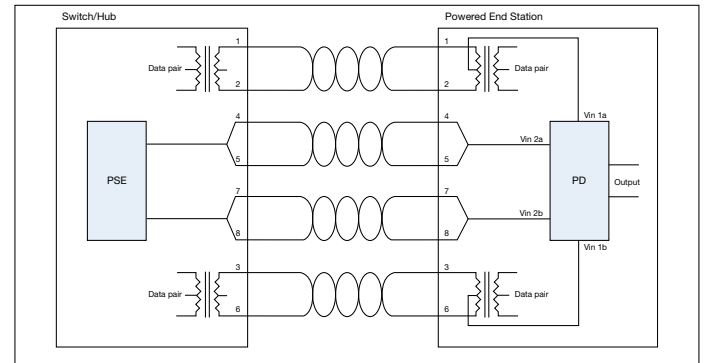
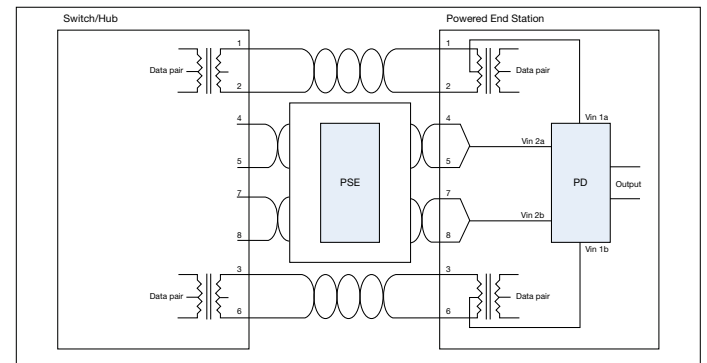

Figure 3: Endpoint PSE, Alternate B
Figure 4: Midspan PSE, Alternate B
The other alternatives methods detailed in the IEEE specification are shown in Figure 3 and Figure 4. Were the power is supplied by the PSE over the Power Interface (PI), or the spare pairs in 10BASE-T and 100BASE-T networks.
In Figure 3 and Figure 4 the IEEE specification states that the PSE positive must be connected to 4 & 5 and the negative connected to 7 & 8. So if the polarity is fixed does the Vin2 input to the PD require a bridge rectifier? It doesn't need a full bridge rectifier but it would be worth putting two diodes in-line to match the way the Signature circuit responds to either input method.